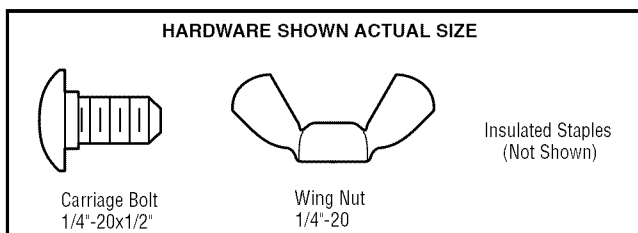

Figure 1 DOOR TRACK MOUNT (RIGHT SIDE)
1. Slip the curved arms over the rounded edge of each door track, with the curved arms facing the door. Snap into place against the side of the track. It should lie flush, with the lip hugging the back edge of the track, as shown in Figure 1.